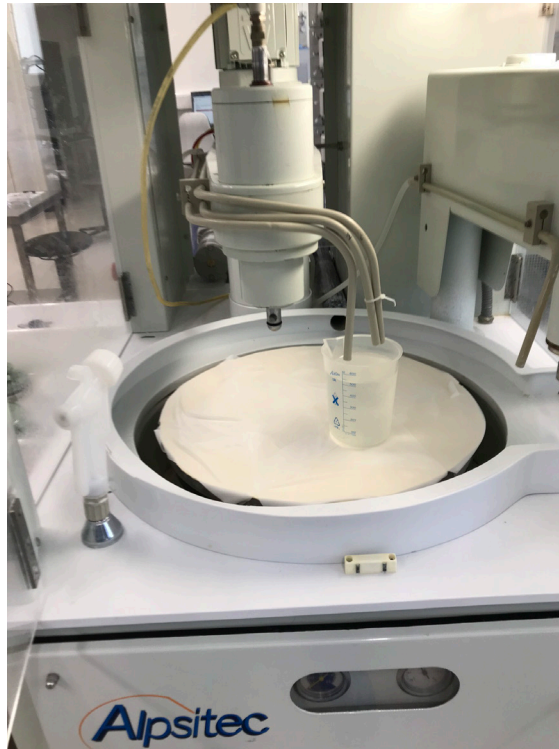

Fig. 14 : Machine in idle mode with wet towels and water bucket under the tubes.
- j) Place the polishing and conditioning heads in the tray with water. Place the bucket full of water on the pad, under the tubes (Fig. 14). The tubes move down in the bucket when the machine is switched off.